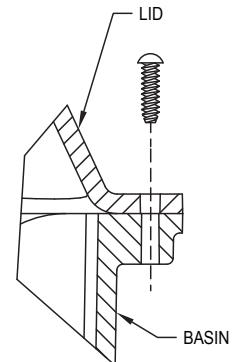

Figure 7.2
- 7.4) Place cover onto basin, then attach washers and screws as shown in Figure 7.2. Repeat where necessary.